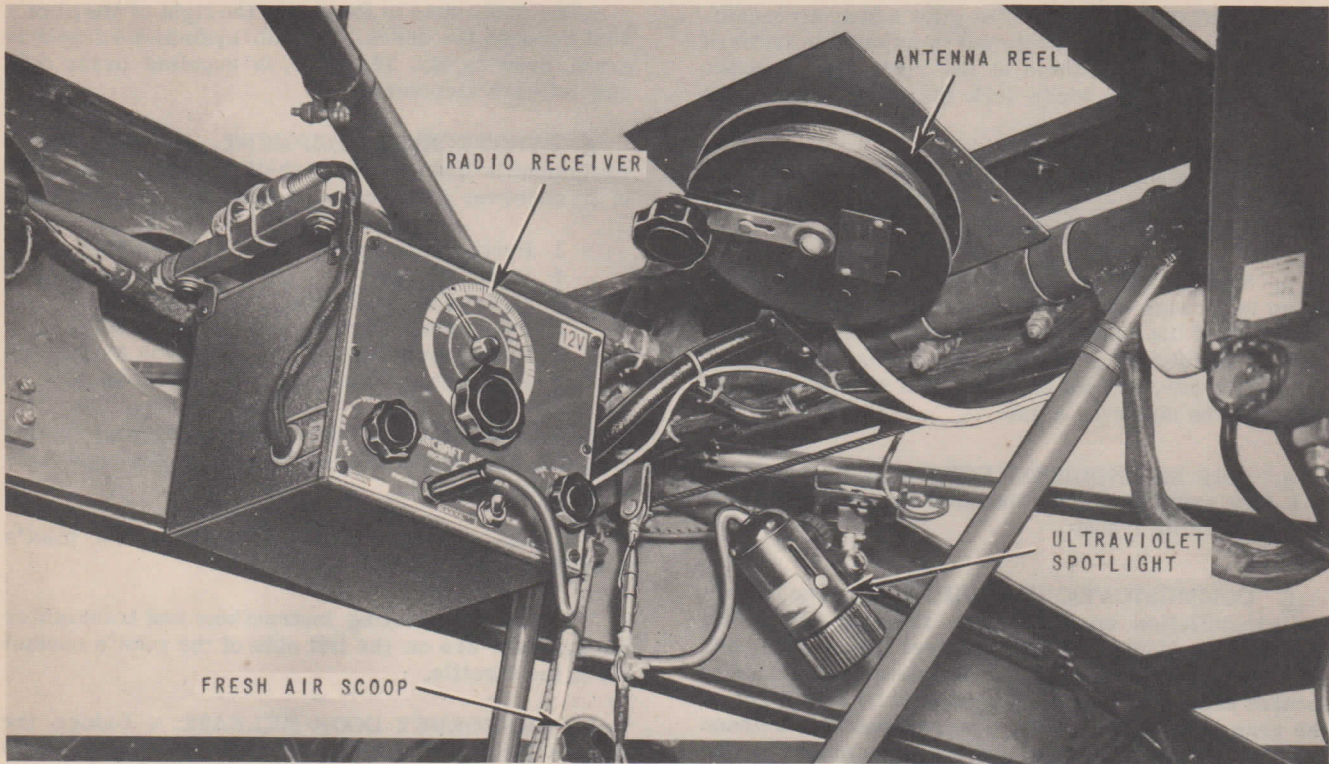

Figure 9 - Radio Receiver and Antenna Reel
f. COMMUNICATIONS EQUIPMENT. - The 12-volt radio installation consists of a receiver (AVR-20), transmitter (AVT-15), antenna reel (AVA-120), and necessary accessories. The complete installation is located near the rear compression tube above and to the rear of the pilot's seat. The receiver and antenna reel are on the right side, and the transmitter on the left. (See figures 9 and 10.)